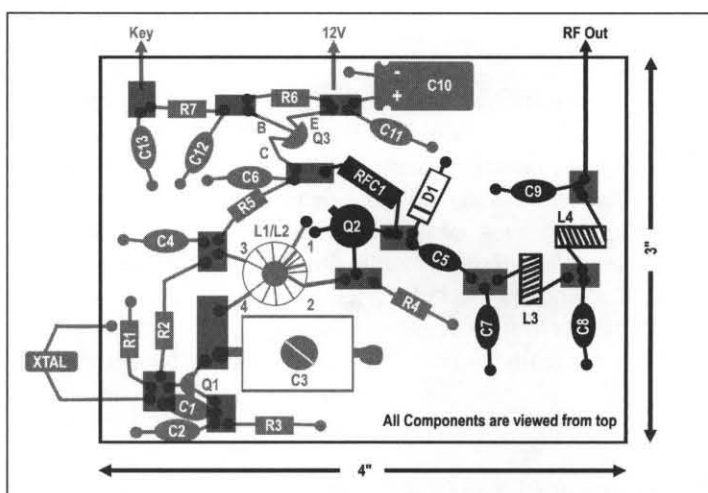

Figure 9. Layout for the output section.
- ___ Mount D1 as shown, noting polarity, as shown in Figure 9.